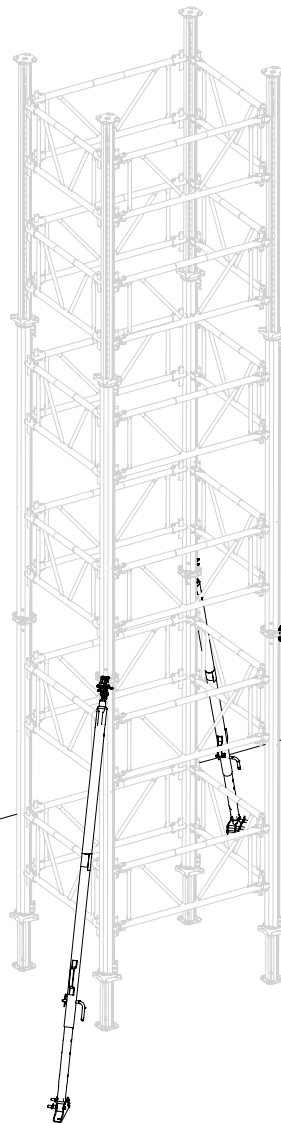

Fig. A5.02
5. Mount additional Push-Pull Props and detach tower from the crane. (Fig. A5.02)